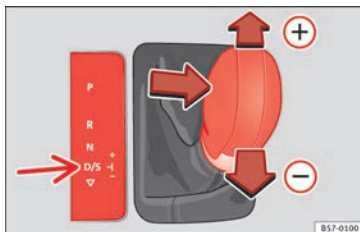

Fig. 169 Centre console: changing gear with tiptronic
- Move the selector lever forwards  to select a higher gear **»» Fig. 169**.